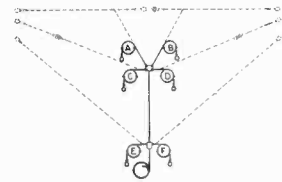

Figure 2—Antenna Laid Out Before Installation
- (1) Lay out antenna, as shown in Figure 2, on flat surface in convenient proximity to supports.
- (2) Remove shipping tape and carefully unwind coils A and B (Figure 2), keeping wire straight and free from twists. Make connection with special link, to top insulator of each hanger, as each wire is uncoiled. Make connection with special link, at center, with loop on coil A to insulator on coil B.
- (3) Unwind coils C and D (Figure 2), keeping wire straight and free from twist. Make connection with special link to center loop of each hanger as each wire is uncoiled.
- (4) Unwind coils E and F (Figure 2), keeping wire straight and free from twist. Make connection with special link to bottom insulator of each hanger as each wire is uncoiled.
- (5) Check the approximate length of transmission line required, and, if necessary, splice on additional lengths of same type of cable. This is obtainable from your dealer in lengths of 45 feet. These lengths should not be cut, but any excess should be coiled, taped and secured in a convenient location. If an auxiliary ultra short-wave antenna is being used it should now be connected in place on the main network as described in paragraph 13.